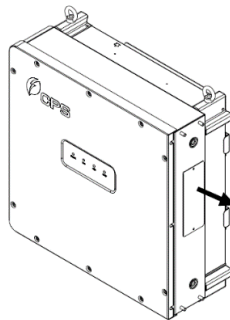
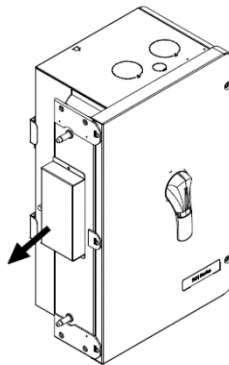

Figure 3-10 Remove the cover of Main Enclosure
Figure 3-14 Wire Box Cover
Reserve the screws and cover (**Figure 3-10**).
- (4) **Install the wire box.** Tools required: No. 2 Phillips head screwdriver, 13mm hex head wrench.
- A. Remove the connector cover on the left of the wire box, Save the cover and screws (see **Figure 3-14**).
Attach the inverter's connector cover and wire-box connector cover shown in Figure 3-10 and Figure 3-14 to the top of the inverter and wire-box. (**Figure 3-17**)